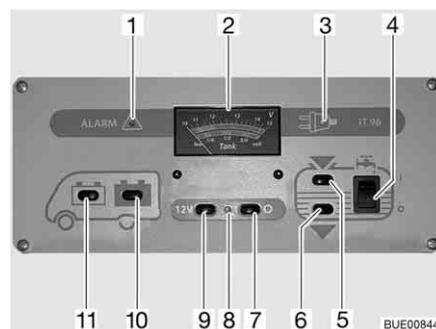

Fig. 151 Panel IT 96-2
The 12 V main switch (Fig. 151,7 and 9) switches the panel and the 12 V power supply to the living area on and off.
Switching on: ■ Press switch (Fig. 151,9) "12 V": The 12 V living area power supply is switched on. The indicator lamp (Fig. 151,8) lights up green.
Switching off: ■ Press switch (Fig. 151,7) "O": The 12 V living area power supply is switched off. The indicator lamp (Fig. 151,8) goes out.
With the V/tank gauge (Fig. 151,2), note the top scale. The gauge automatically lights up as soon as a switch is pressed.
- Press switch (Fig. 151,11) "🔋": The battery voltage of the starter battery is displayed.
- Press switch (Fig. 151,10) "🔋": The battery voltage of the living area battery is displayed.
The V/tank gauge is for the indication of the quantity of water or waste water. With the V/tank gauge (Fig. 151,2), use the bottom scale. The gauge automatically lights up as soon as a switch is pressed.
- Press switch (Fig. 151,5) : The volume of water is displayed.
- Press switch (Fig. 151,6) : The volume of waste water is displayed.
Switching on: ■ Press the upper part of the rocker switch (Fig. 151,4) "I": The water supply is ON.
Switching off: ■ Press the lower part of the rocker switch (Fig. 151,4) "O": The water supply is OFF.
The red "ALARM" warning light (Fig. 151,1) flashes as soon as the voltage of the living area battery falls below 11 V (measured under operation) and there is a risk of a total discharge.
The 12 V indicator lamp (Fig. 151,8) illuminates whenever the 12 V main switch (Fig. 151,9) is switched on.
The yellow 230 V indicator lamp (Fig. 151,3) illuminates whenever line voltage is available at the transformer/rectifier input.